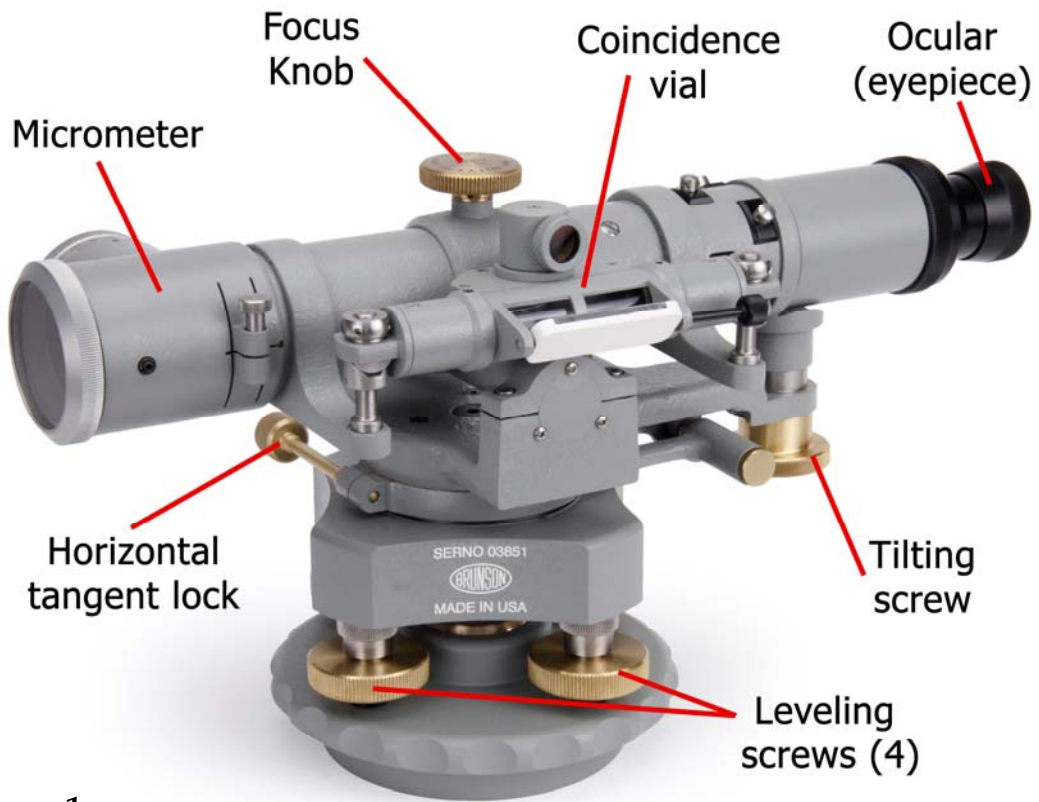

Figure 1
View the plate vial directly from above and bring its bubble to the center by using the instrument leveling screws. (Refer to Figures 1 and 2.) We will call the current telescope orientation "Position 1". Position yourself so that you are facing the plate vial side of the instrument and looking perpendicularly at the side of the telescope. Put a thumb and forefinger on the leveling screws which are on the left and right sides of the base and under the telescope. Then to move the bubble, turn the leveling screws at the same time, and in opposite directions (thumbs moving together or thumbs moving apart). The bubble will move in the direction of movement of your left thumb. Move the bubble so that it is in the middle of the plate vial, and at least in line with the inscribed circle (it probably won't be exactly centered). Now move your hands to the other set of leveling screws, and, using the same process, move the bubble directly under the inscribed circle in the center of the plate vial. You may have to repeat this entire process a couple of times to get the bubble centered.
1. View the plate vial directly from above and bring its bubble to the center by using the instrument leveling screws. (Refer to Figures 1 and 2.) We will call the current telescope orientation "Position 1". Position yourself so that you are facing the plate vial side of the instrument, and looking perpendicularly at the side of the telescope. Put a thumb and forefinger on the leveling screws which are on the left and right sides of the base and under the telescope. Then to move the bubble, turn the leveling screws at the same time, and in opposite directions (thumbs moving together or thumbs moving apart). The bubble will move in the direction of movement of your left thumb. Move the bubble so that it is in the middle of the plate vial (left to right), and at least in line with the inscribed circle - it probably won't be exactly centered. Now move your hands to the other set of leveling screws, and, using the same process, move the bubble directly under the inscribed circle in the center of the plate vial. You may have to repeat this entire process a couple of times to get the bubble centered.